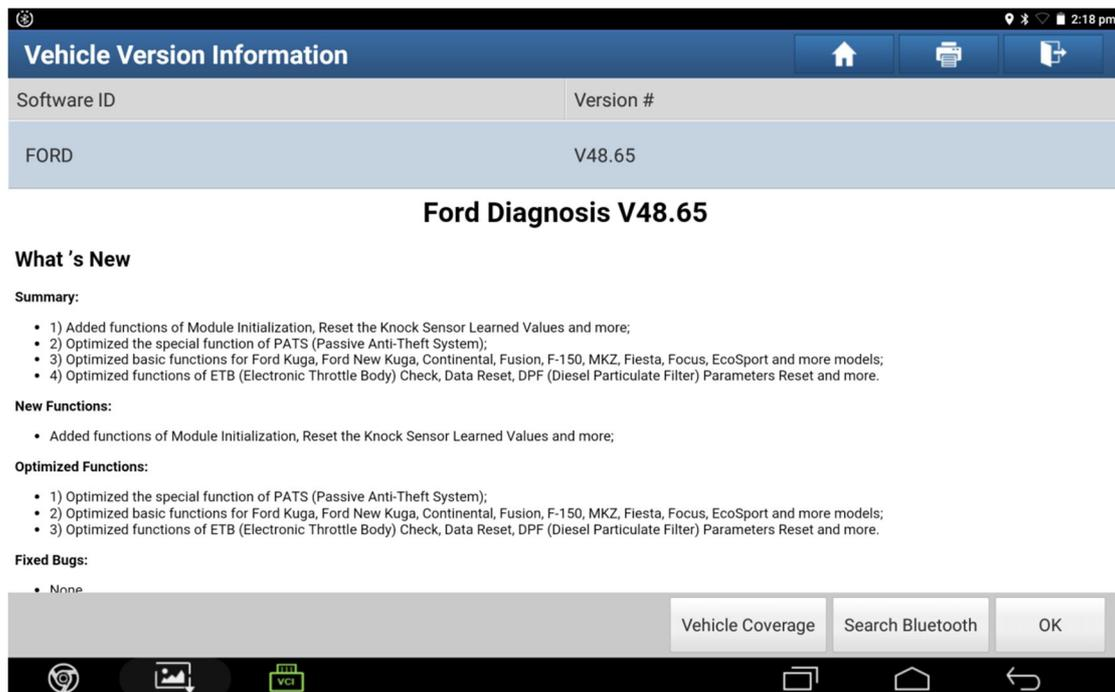

Figure 1
1. Select [Auto Search] (Figure 1, Figure 2).